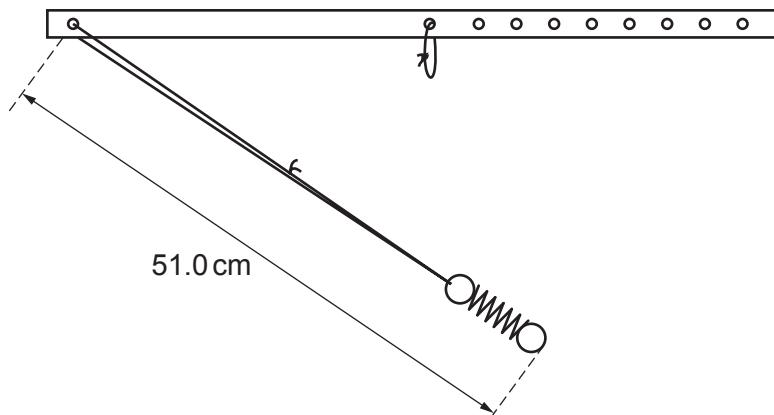

Fig. 1.2
- 2 Tie a string loop and the spring to the first hole in the wooden strip, as shown in Fig. 1.2.
Tie a string loop of approximate circumference 5 cm through the second hole, as shown in Fig. 1.2.